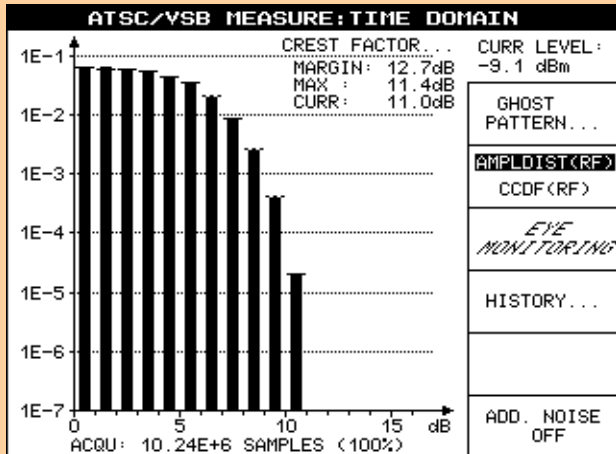

Fig. 8: Amplitude distribution function
- ◆ Linearity analysis from amplitude distribution histogram and CCDF referred to the RF signal (Figs 8 and 9)